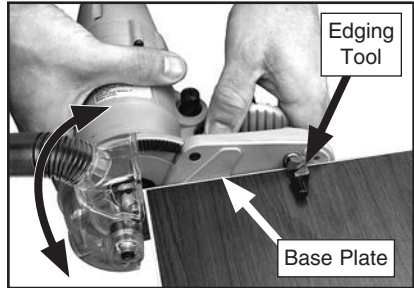

Figure 15. Aligning trim router to workpiece corner.
3. Place edging tool on top of workpiece, and align base plate with workpiece edge, as shown in **Figure 15**.
Move tool up and down along edge of workpiece, keeping base plate aligned and using edging tool as a pivot point, as shown in **Figure 15**.